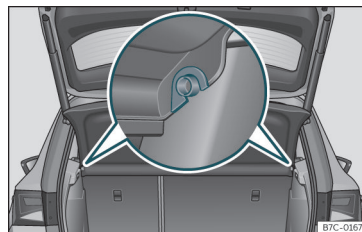

Fig. 111 In the luggage compartment: removing and fitting the shelf.
- Remove the rear shelf from the side supports»» Fig. 111 by pulling it upwards and then take it out.
- Insert the cover horizontally so that the “recess” fits onto the axis of the supports »» Fig. 111 and press down until it engages.